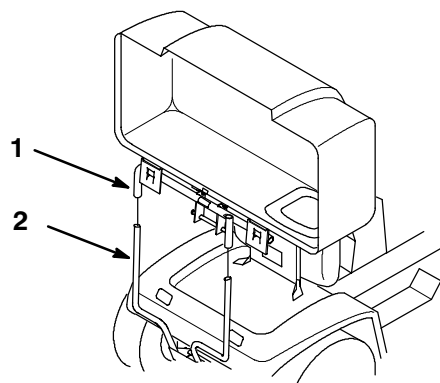

Figure 16
3. Carefully lift the bagger top and slide it onto the quick-attach bracket (Fig. 16). The bagger top is easier to install if two people work together.